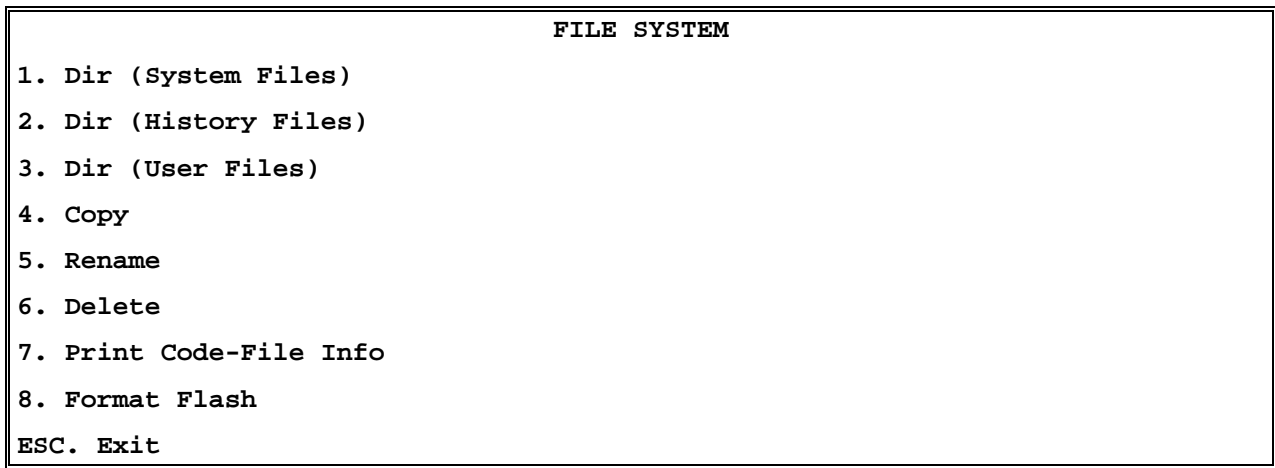

Figure 4-23. File System Menu
1. Follow the path above to access the File System menu (Figure 4-23).